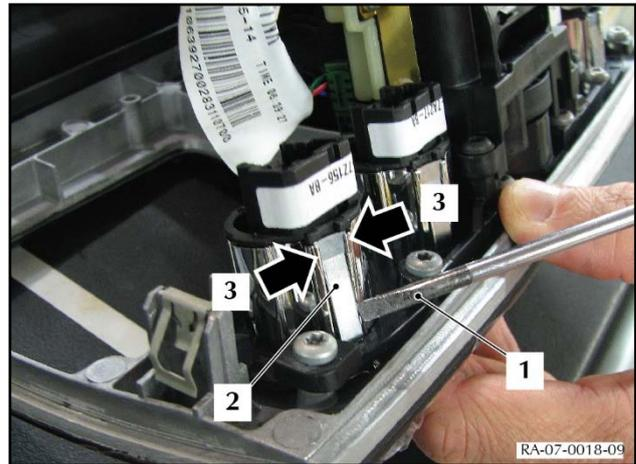

Figure 9
10. Use an applicable thin bladed tool (1) as a lever to remove the two metal retaining clips (2) from the “Drive” switch (refer to Figure 9).
**Note: The plastic parts (3) that attach the retaining clip will break. This is usual.**